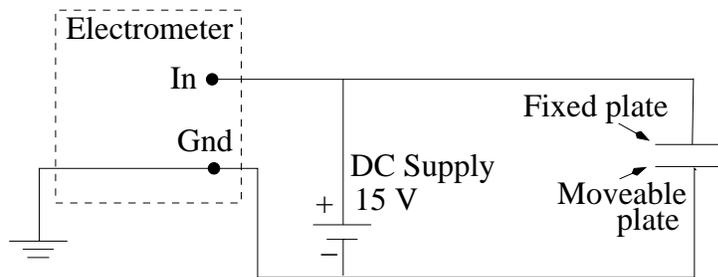

Figure 1a: Setting the supply and charging the plate
1. Referring to Figs. 1a and b, connect the electrometer across the capacitor, but use the special low capacitance lead and a separate ground instead of the shielded coaxial cable. Use the movable plate as the grounded one, and turn the apparatus so the fixed plate faces away from you. The ground removes any new excess charge that might accidentally come in contact with the plate, in order to keep the voltage the same. As a result, it provides some shielding of the system from charges on your hand or clothing. Also, with one plate at ground, you will only have to touch the other plate with the supply in order to charge the capacitor in step 2 below.